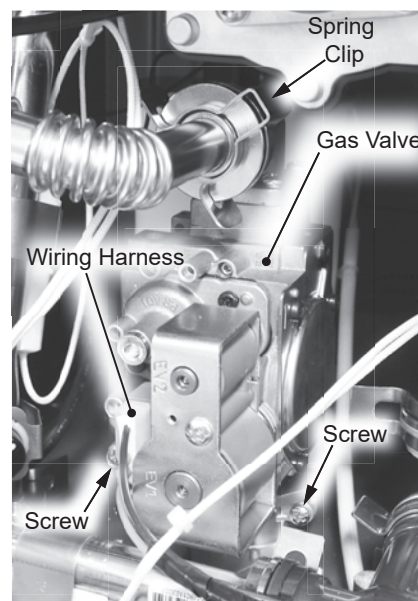

Figure 81 - Gas valve location and connections
**7** Locate the gas valve at the bottom left side of the water heater. See Figure 81.
**8** Remove and keep the screw securing the wiring harness to the gas valve. See Figure 81.
**9** Locate and remove the spring clip securing the gas valve to the gas piping system. Note its orientation and place it aside for reinstallation. See Figure 81.
**10** Remove and keep the screw at base of the gas valve. See Figure 81.